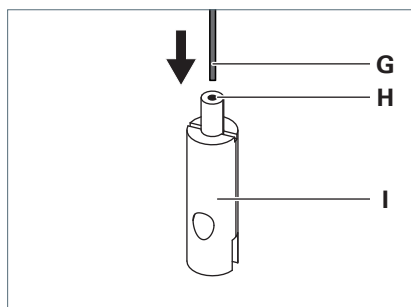

Fig. 4: Mounting the wire rope holder.
- ▶ Guide the wire rope **G** through the guide bushing **H** of the wire rope holder **I**, see Fig. 4.